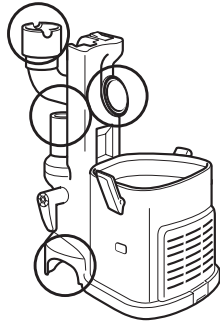

Fig. 29
- Remove the dust cup and wand and detach the pod from the motorized floor nozzle. Check all openings for any blockages. (Fig. 29)